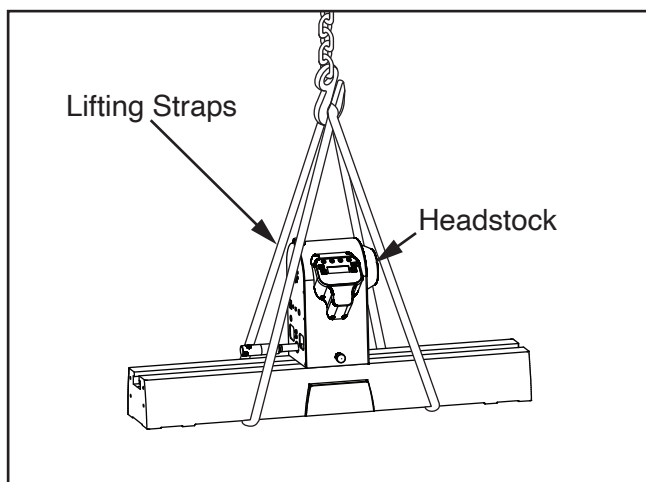

Figure 14. Headstock centered on bed.
6. Move headstock to center of bed (see **Adjusting Headstock** on **Page 30**), then lock it in place (see **Figure 14**).
7. Route lifting straps around bed, as shown in **Figure 14**.